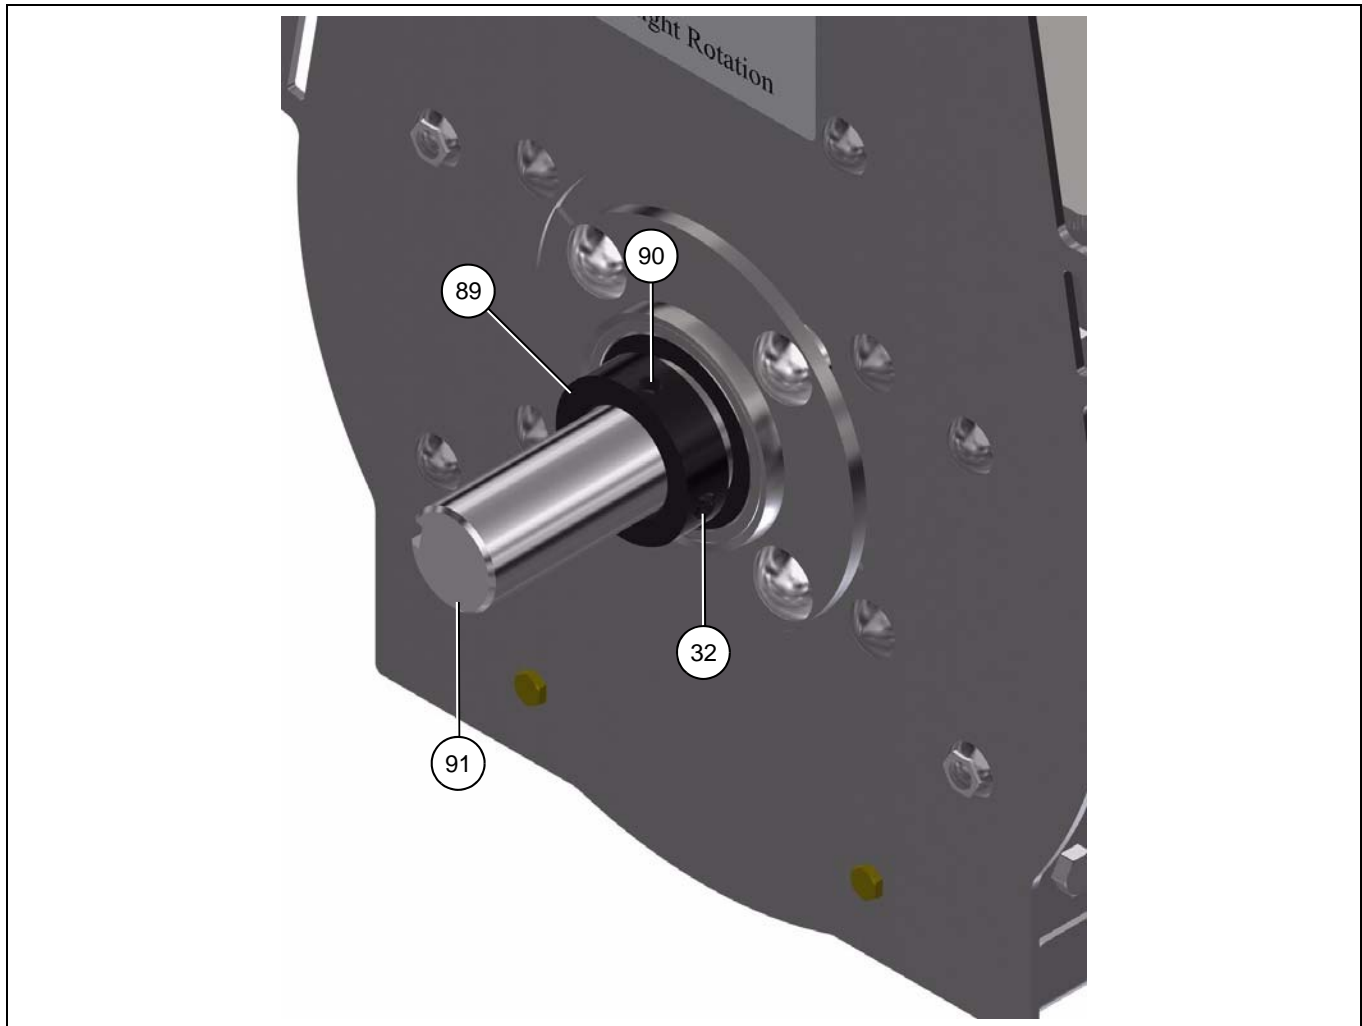

Figure 4AX
1. Ensure the bearing assembly with eccentric locking collar (89) is assembled on the powerhead shaft (91) as shown in Figure 4AX.
2. Using a hammer and a punch, lock the bearing onto the shaft by inserting the punch into the blind hole (90) on the eccentric locking collar (89) and tapping punch with the hammer to rotate the collar clockwise (matching the flight rotation direction) until it binds.
3. Secure the eccentric locking collar (89) in this position by tightening down the set screw (32).